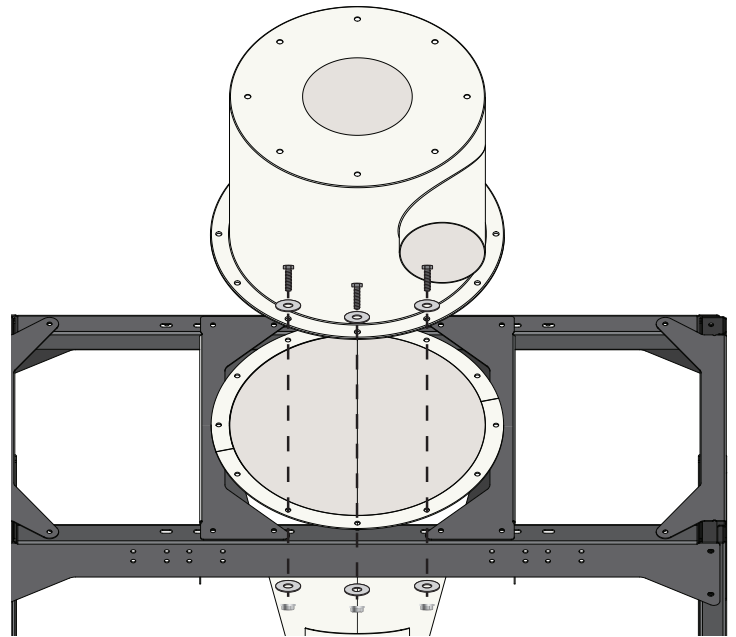

FIG. 4
Once your Cone (D) is aligned with the Stand (P), lift the Barrel (C) onto the Cone, making sure to align the corresponding flange holes. Secure both components to the stand using twelve Hex Head Bolts (O7), twenty-four Flat Washers (O3), and twelve Whiz-Lock Nuts (O8) [FIG 4].